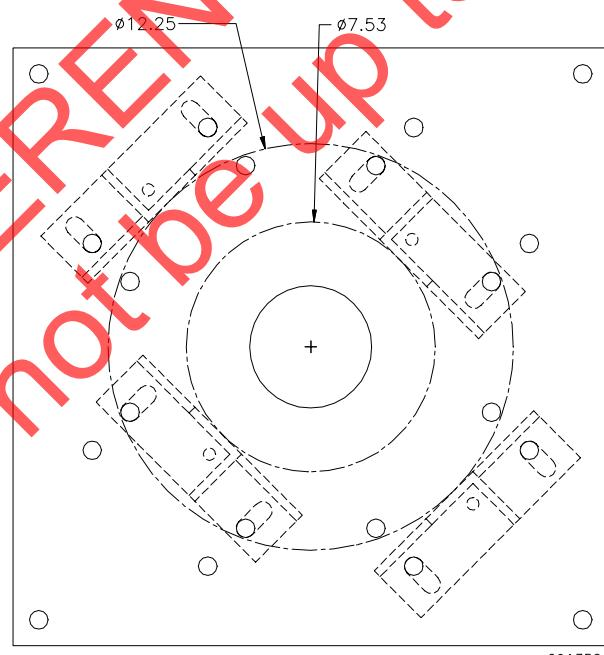

Figure 3-3. Leg Assembly Diameters.
5. Adjust the legs and insert shims, if necessary, between the siren legs and pole. The legs adjust to a diameter between 7.53" and 12.25" (See *Figure 3-3*). Bolt the siren to the pole using two 5/8" galvanized lag bolts with washers and split lockwashers per leg. At least four inches of lag bolt must be screwed into the pole. Tighten all bolts.